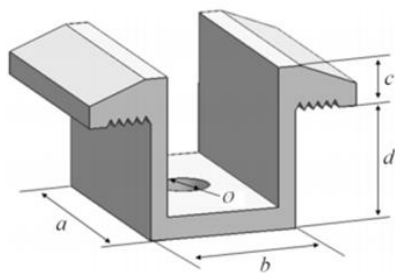
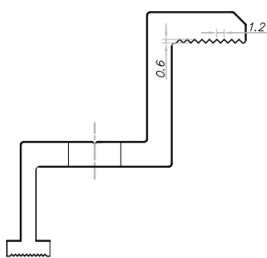
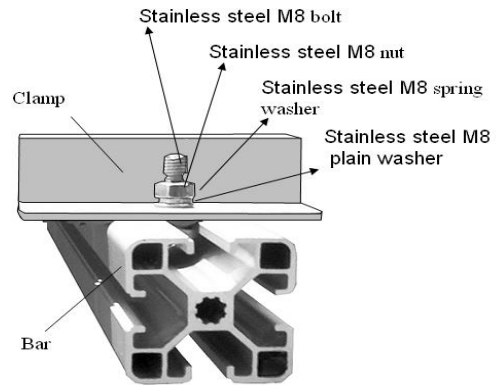

Fig. 14 Schematic diagram of the mid clamp
Fig. 15 Schematic cross section of the fringe clamp
Fig. 16 Schematic diagram of the fringe clamp
- ③ The top surface of the rail contacted with module frame should be equipped with grooves compatible with an M8 bolt.
- ④ If the grooves are not provided, holes of a suitable diameter may need to be drilled to allow bolts attaching to the rail at the same locations as mentioned above.
- ⑤ Ensure that the mounting sequence of each clamp is in the order of flat washer, spring washer and nut.
- ⑥ There are two types of clamps, the mid clamp shown in Fig. 14 and the fringe clamp shown in Fig. 15 and Fig. 16. The mid clamp has dimensions of a  $\geq 40$  mm, b  $\geq 26$  mm, c  $\geq 5$  mm, d  $\geq 28$  mm,  $\varnothing = 9$  mm. For module of 182/210mm-wafer, the size of mid and fringe clamp must meet a  $\geq 60$  mm. The tightening torque is suggested to be 17~23Nm for Class 8.8 screw and bolts.
- ⑦ To prevent modules from coming off the fixed device after installation, it is suggested to choose fringe and mid clamps and make contact with the A side of the frame with groove patterns. Suggest to have 9 patterns with a space between 2 adjacent patterns of 1.2mm and a depth of 0.6mm, as shown in figure 15.